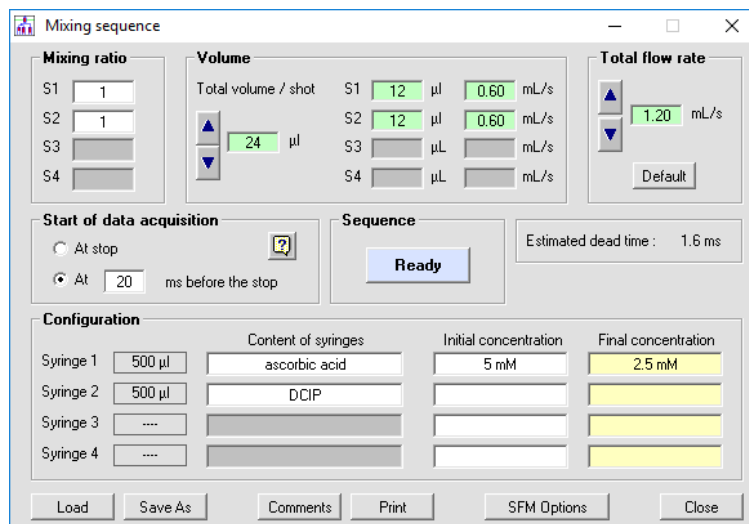

Figure 26 : Example of sequence using 12 μl of each sample
The sequence shown in Figure 26 will be used for the series of shots.
- Edit the stopped-flow sequence shown in Figure 26.